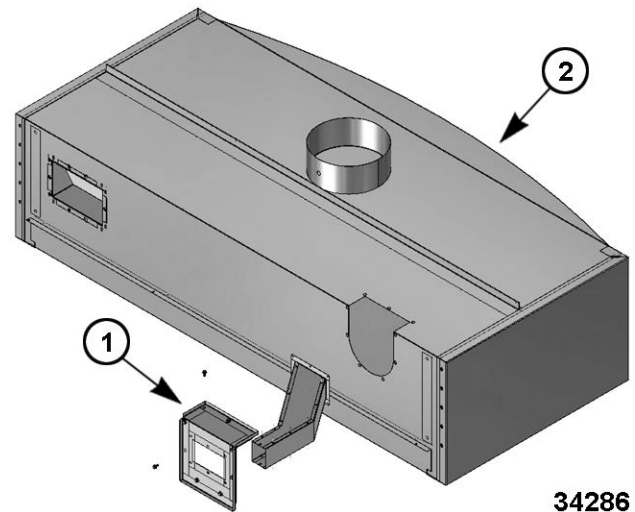

Fig. 107
- Install exhaust connection plate (1, Fig. 107) to hood assembly (2, Fig. 107).